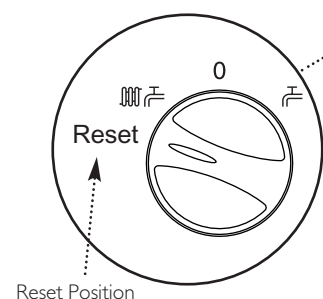

Fig. 13
2. Turn the selector switch fully anti-clockwise against the spring pressure to the 'Reset' position for at least two seconds and release (Fig. 13). Set the selector to the required position to light the boiler.